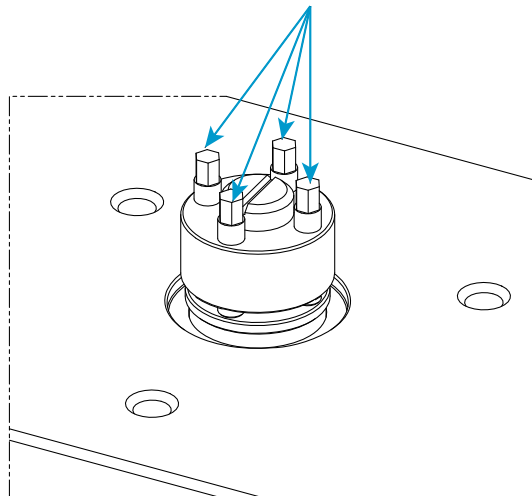

Figure 24. Mechanical tensioner assembly
11. Use the torque wrench (80-9-11) with the matching 5 mm hex drive socket (67-4-29) supplied in the mechanical tensioner kit to tighten the four set screws (shown in Figure 24 on page 89) on the mechanical tensioner to 14 N-m (10.3 ft-lb) according to the following procedure: